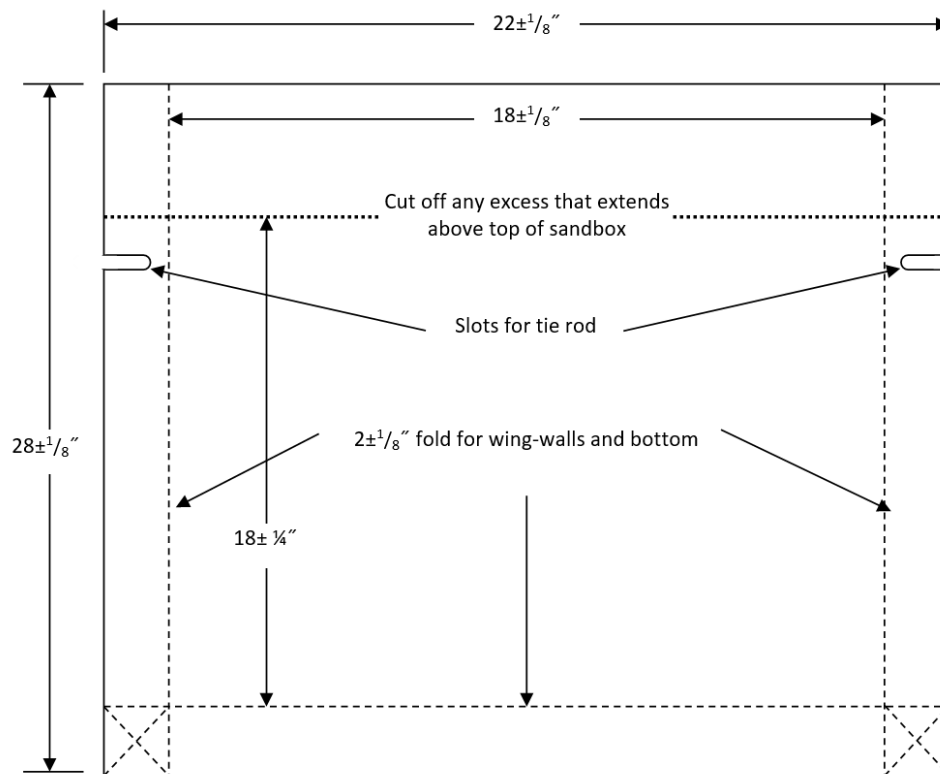

Figure 8: Dimensions of the poster board wall facing (not to scale)
- a) Facing – One piece of poster board. See Figure 8 for dimensions.
- a) **Reinforcement Fabrication Stage** – Each team will be provided with a single sheet of 60 lb kraft paper approximately 24 in \times 24 in. The team must fabricate all their reinforcing elements from this sheet using authorized construction tools. Fifteen (15) minutes will be allotted for this stage. Teams will be penalized for time exceeding the time limit. After all reinforcing elements are fabricated, excess material will be disposed of and the judges will weigh the reinforcing elements to the nearest 0.01 grams.
- b) **Wall Assembly Stage** – After each team’s reinforcing elements have been fabricated and weighed, the team will be provided with a sheet of poster board (22 in × 28 in) and a roll of packing tape. The team must assemble their wall using these materials and authorized construction tools. Dimensions for the wall facing area shown in Figure 8.